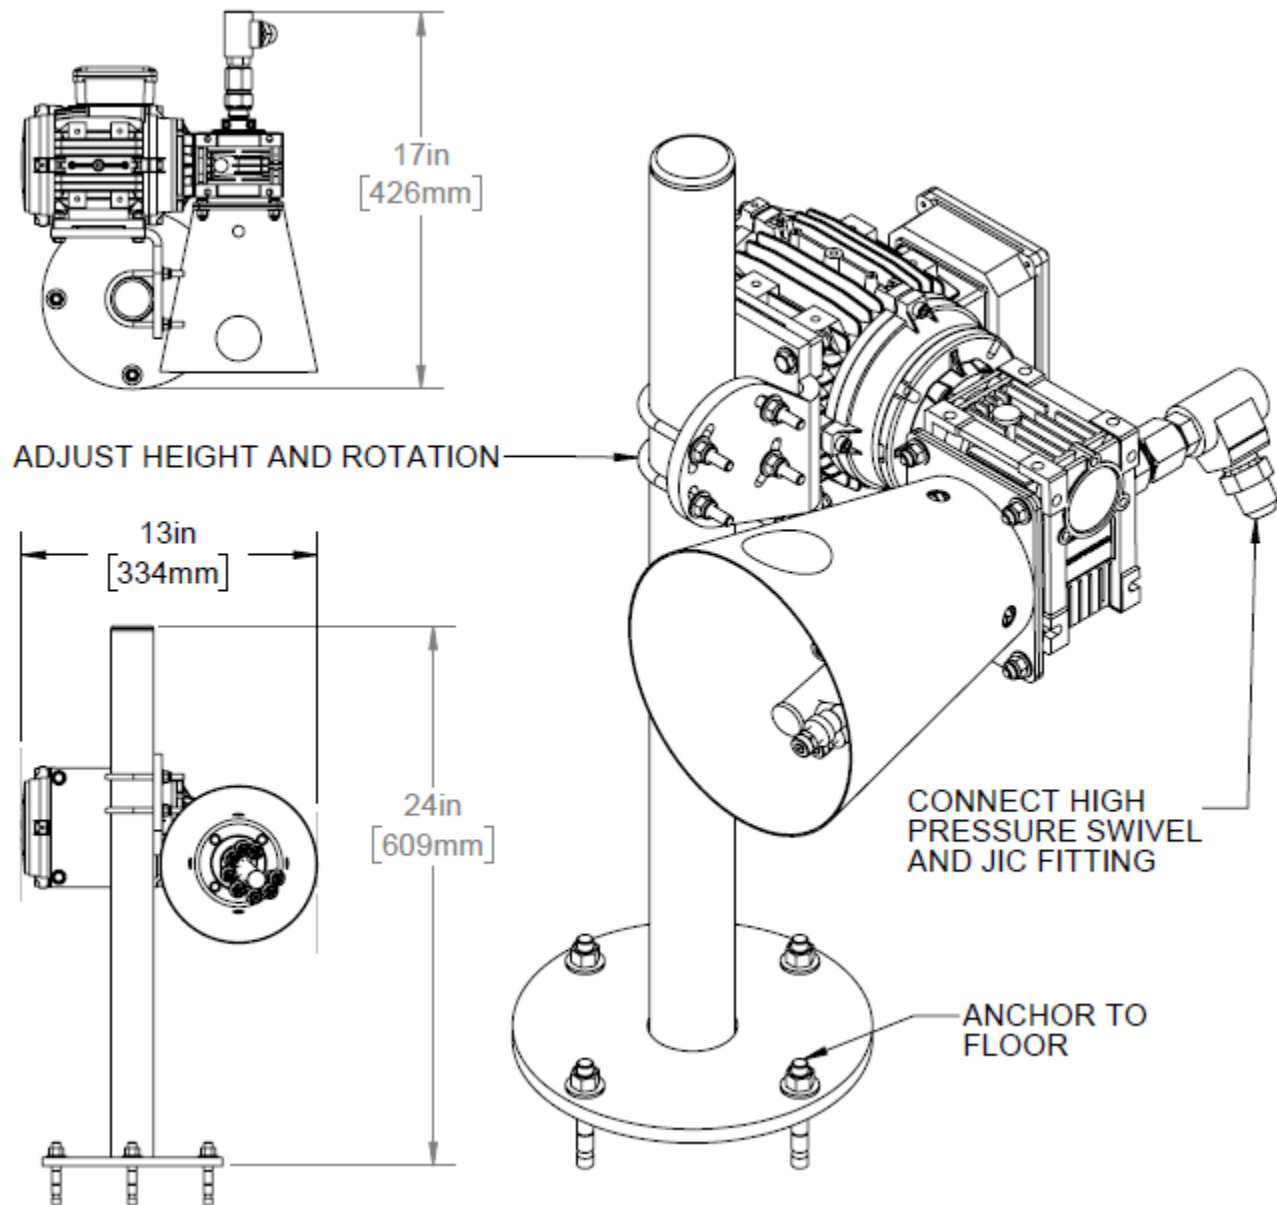

Figure 116 - Gatling Gun Assembly
- Anchor the Gatling Gun assemblies to the wash bay floor using the supplied floor anchors (see Figure 116).